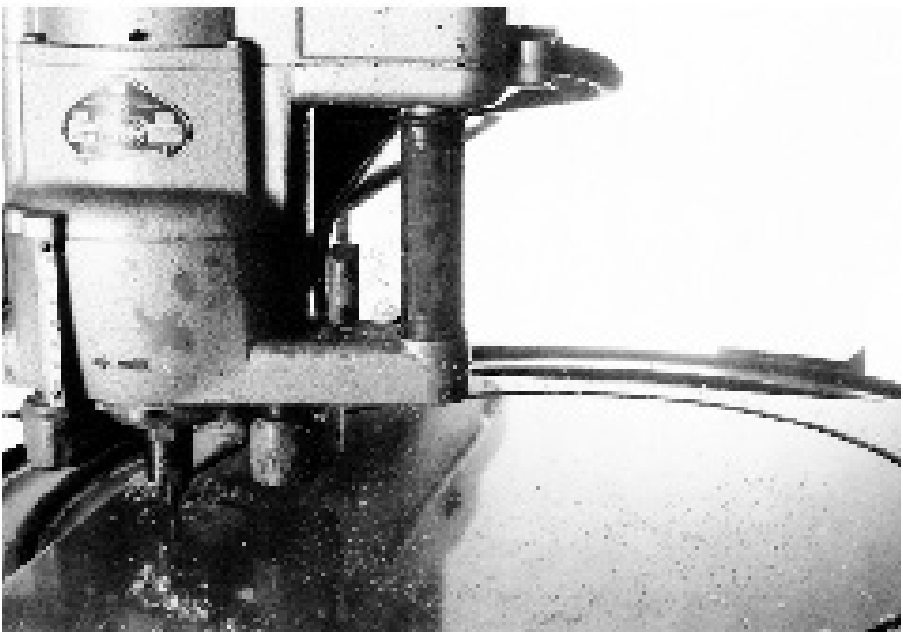

Fig. 18 Endmill
- endmill (Fig. 18) in milling machine or comparable machine with a pivoting clamping table